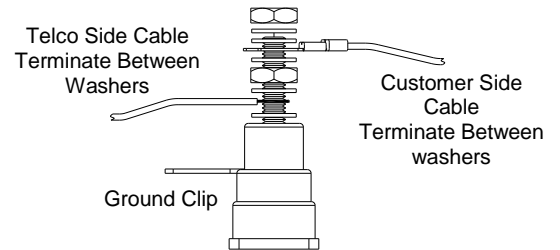

Figure 2
- Terminate the Telco Side cable (i.e., aerial or buried drop) in between the bottom set of washers and bottom nut of the appropriate stud (one conductor to Tip and one to Ring). Tighten down the nut (Figure 2).
- Terminate the Customer Side cable under the top set of washers and the top nut of the appropriate stud (one conductor to Tip and one to Ring). Tighten down the nut (Figure 2).